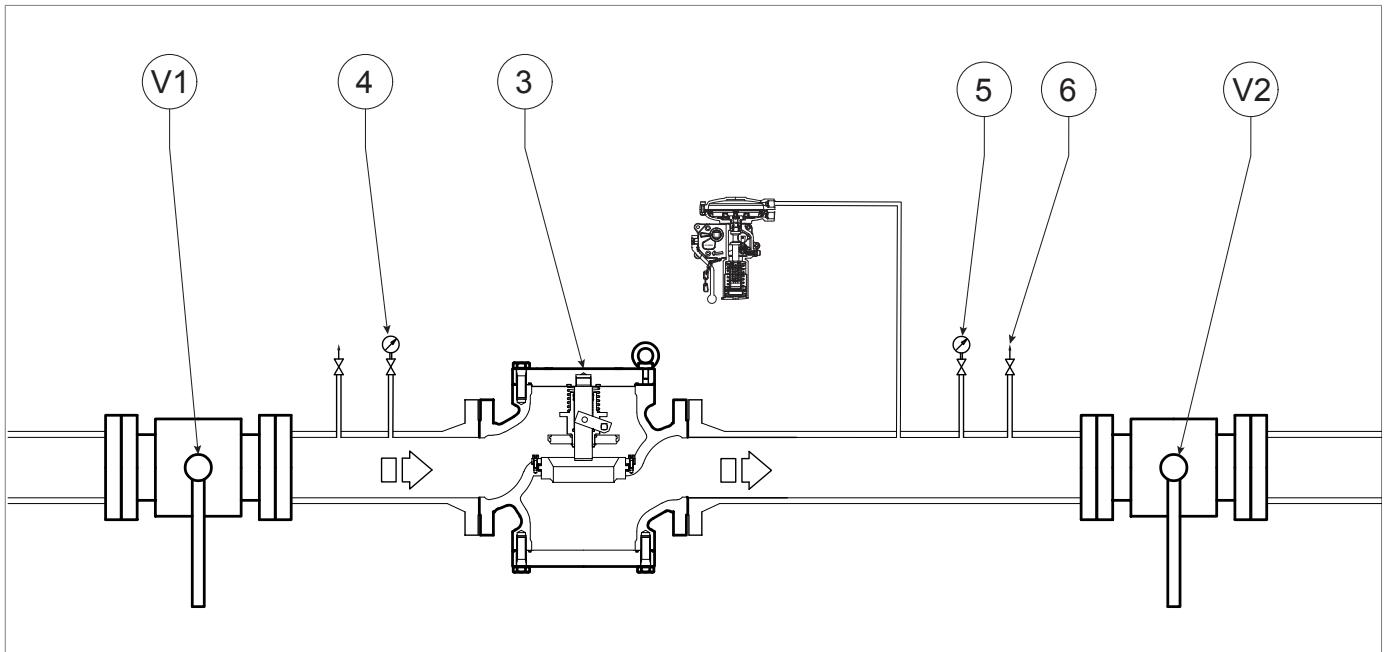

Fig. 8.9. Checking the tightness of the slam-shut valve SCN
1	<p>Increase the downstream pressure (<math>P_d</math>) to check correct calibration:</p> <ul style="list-style-type: none"> <li>of the line, using an external pressure source</li> <li>of the pressure switch head, referring to "8.5.3 - Pressurising with external source".</li> </ul> <p>! NOTICE!</p> <p>Check the pressure referring to the downstream pressure gauge (Fig. 8.9, ref. 5).</p> <p>If the slam-shut valve:</p> <ul style="list-style-type: none"> <li>trips before the expected pressure value: screw in (clockwise) the adjustment ring nut (13) so as to further compress the spring (11);</li> <li>does not trip at the expected pressure value: unscrew (anti-clockwise) the adjustment ring nut (13) so as to relieve the spring (11).</li> </ul>
2	Decrease the pressure in the pressure switch head using the drain cock (3) of the external source or the drain cock (Fig. 8.9, ref. 6)
1	Partially open the bleed cock (Fig. 8.9, ref. 6) and keep it open for the next steps.
2	<p>Decrease the downstream pressure to the minimum required slam-shut valve pressure.</p> <div style="border: 1px solid blue; padding: 5px;"> <p>! NOTICE!</p> <p>Check the pressure referring to the downstream pressure gauge (Fig. 8.9, ref. 5).</p> <p>If the slam-shut valve:</p> <ul style="list-style-type: none"> <li>• trips before the expected pressure value: unscrew (anti-clockwise) the adjustment ring nut (15) so as to relieve the spring (17);</li> <li>• does not trip before the expected pressure value, screw in (clockwise) the adjustment ring nut (15) so as to further compress the spring (17).</li> </ul> </div>
3	Close the bleed cock (Fig. 8.9, ref. 6).
1	<p>NOTICE!</p> <p>Check the pressure referring to the pressure gauge (Fig. 8.9, ref. 5) downstream of the main regulator.</p> <p>If the slam-shut valve:</p> <ul style="list-style-type: none"> <li>trips before the expected pressure value: screw in (clockwise) the adjustment ring nut (13) so as to further compress the spring (11);</li> <li>does not trip at the expected pressure value: unscrew (anti-clockwise) the adjustment ring nut (13) so as to relieve the spring (11).</li> </ul>
2	By opening the vent (Fig. 8.9, ref. 6), decrease the pressure in the downstream section to the calibration value of the main regulator.
3	Close the air vent valve (Fig. 8.9, ref. 6).